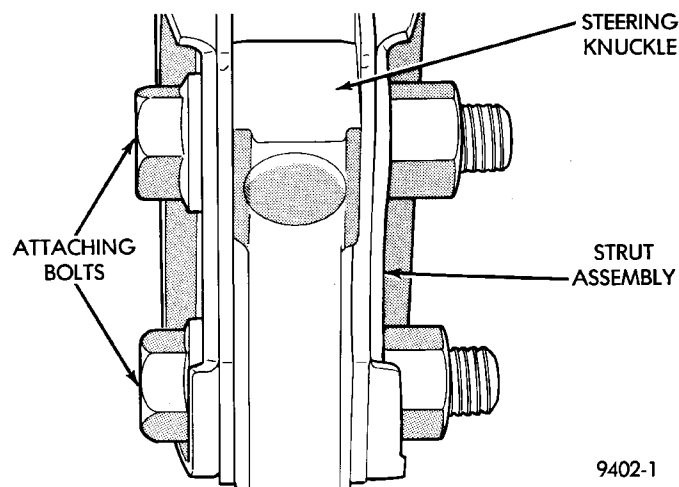

Fig. 25 Remove Steering Knuckle To Strut Attaching Bolts
(14) Remove the 2 steering knuckle to strut damper clevis bracket attaching bolts (Fig. 25).
(2) Install steering knuckle back in clevis bracket of strut damper assembly (Fig. 25). Install the strut damper to steering knuckle attaching bolts. **Note:** The steering knuckle to strut assembly attaching bolts are serrated and must not be turned in steering knuckle during installation. Torque attaching nuts to 54 N·m (40 ft. lbs.) plus an additional 1/4 turn after specified torque is met.